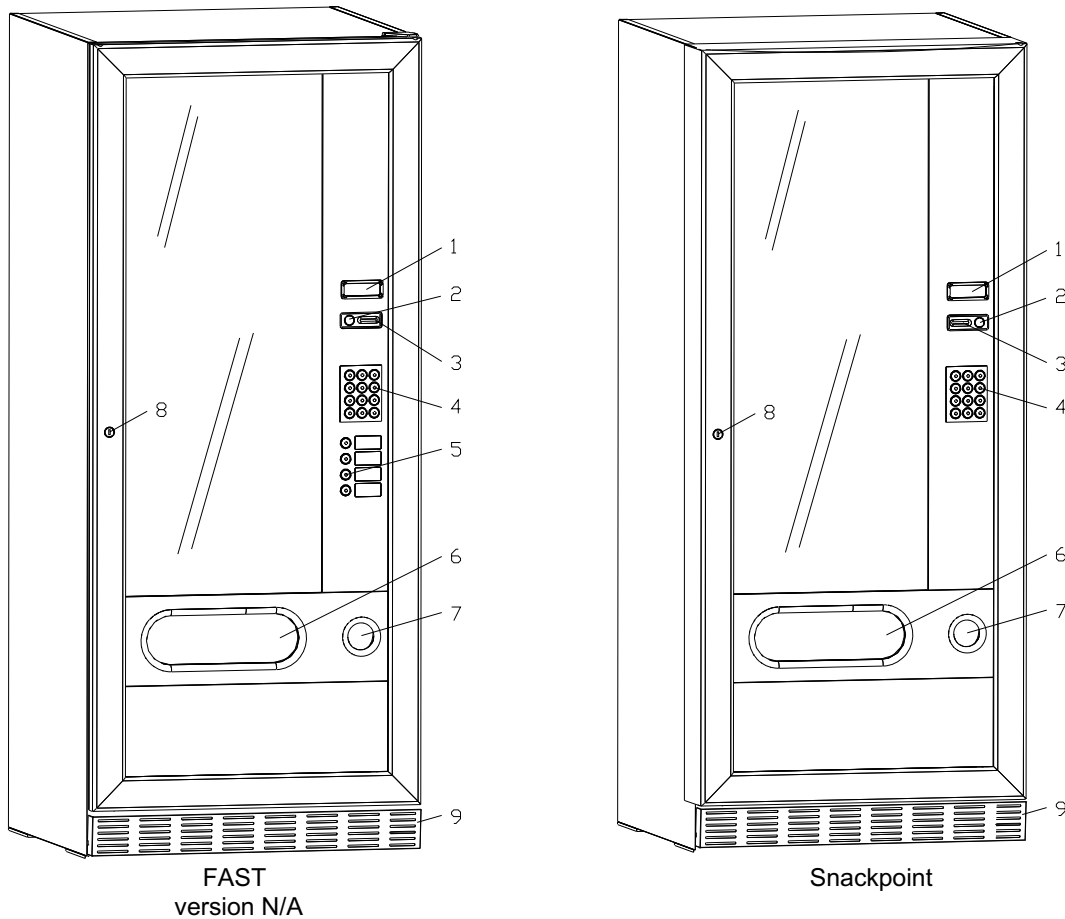

fig. 1
- To apply the product labels, see point 5, fig. 1, remove the coin mechanism support fixed by the means of the screws and put them into the provided pocket.